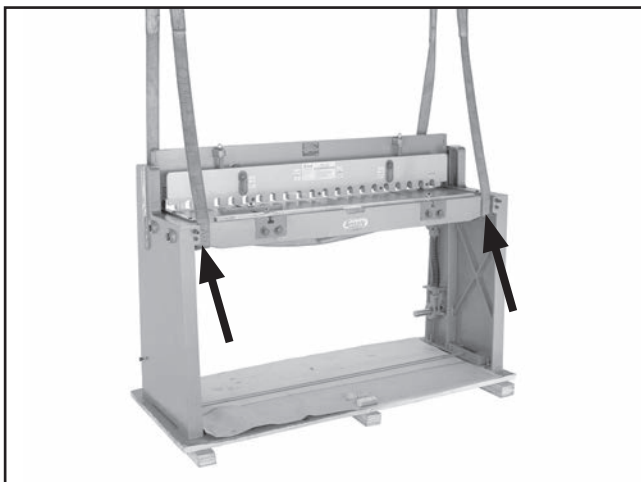

Figure 8. Example of lifting straps placed under shear table for lifting.
3. Place lifting straps under shear table at locations shown in **Figure 8**. Straps should be spread as wide as possible.